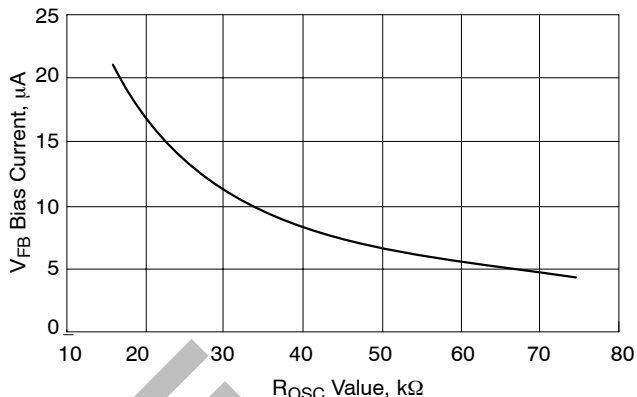

Figure 4. V_{FB} Bias Current vs. R_{OSC} Value
- The V_{FB} Bias Current changes with the value of R_{OSC} per Figure 4.
To set the no-load positioning, a resistor is placed between the output voltage and V_{FB} pin. The V_{FB} bias current will develop a voltage across the resistor to increase the output voltage. The V_{FB} bias current is dependent on the value of R_{OSC} . See Figure 4.